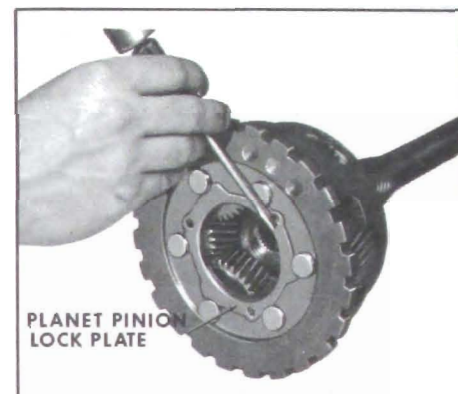

Figure 5-245
2. Rotate planet pinion lock plate and remove. See Figure 5-245.